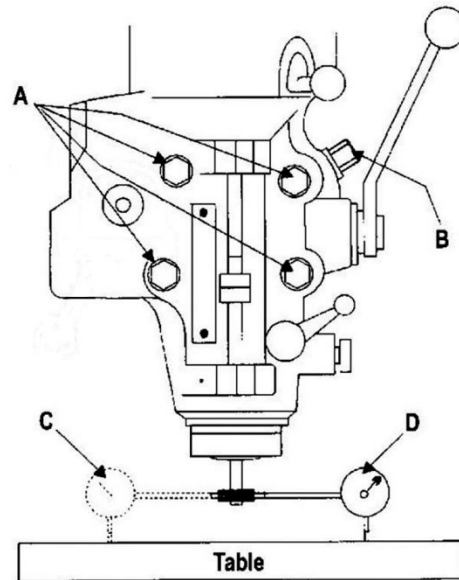

Figure 11: head movement
1. Loosen four large hex nuts (A, Figure 11) that secure mill head to ram adapter. One-quarter (1/4) turn should be sufficient to allow head to move.
2. Turn worm nut (B, Figure 11) to tilt head left or right as required. Use scale on ram adapter to establish angle.
5. Set up a dial indicator in a collet (see Figure 11) and secure using draw bar.